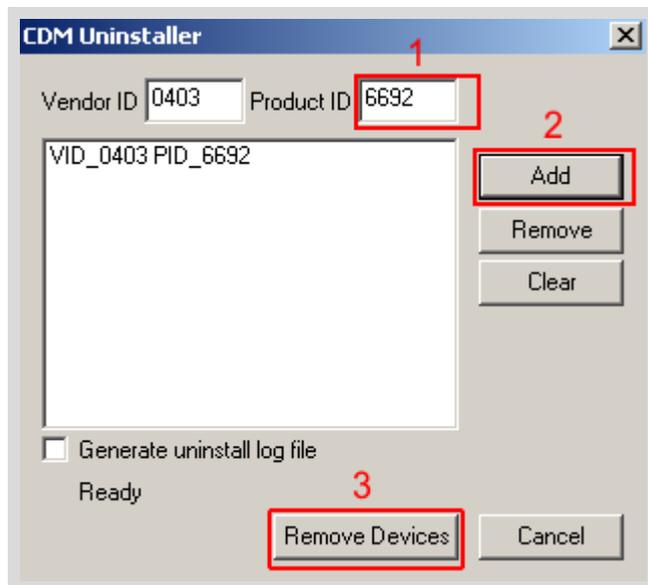

Figure 19 The Drivers are uninstalled by the CDM Uninstaller software
- Change the PID to 6692(Figure 19).